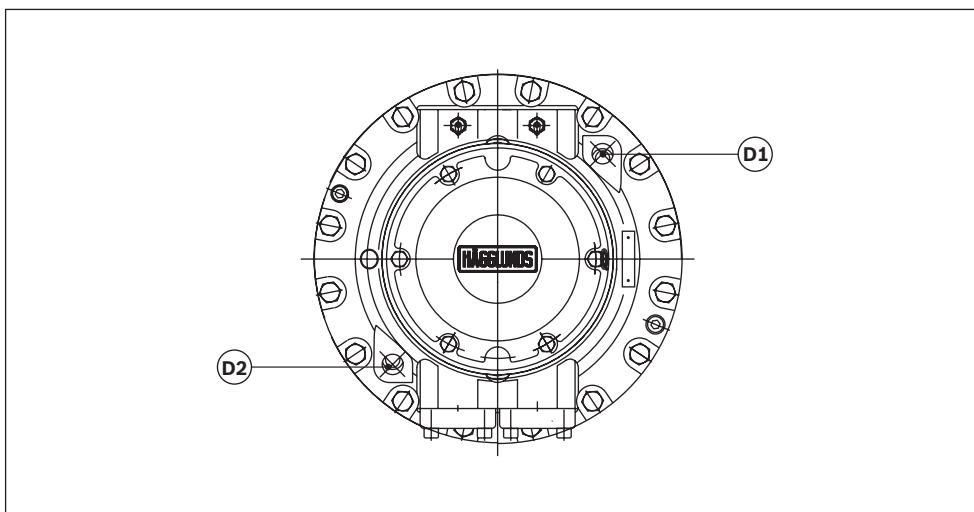

Fig. 3.12: Vertical line
- Make sure that the torque arm will be pointing in the right direction when the motor is mounted in place on the machine. To achieve the highest possible oil level in the motor housing, the motor must be turned until the drain outlets are positioned according to figure 3.12.
To achieve the highest possible oil level in the motor housing, the motor must be turned until the drain outlets are positioned according to figure 3.12.